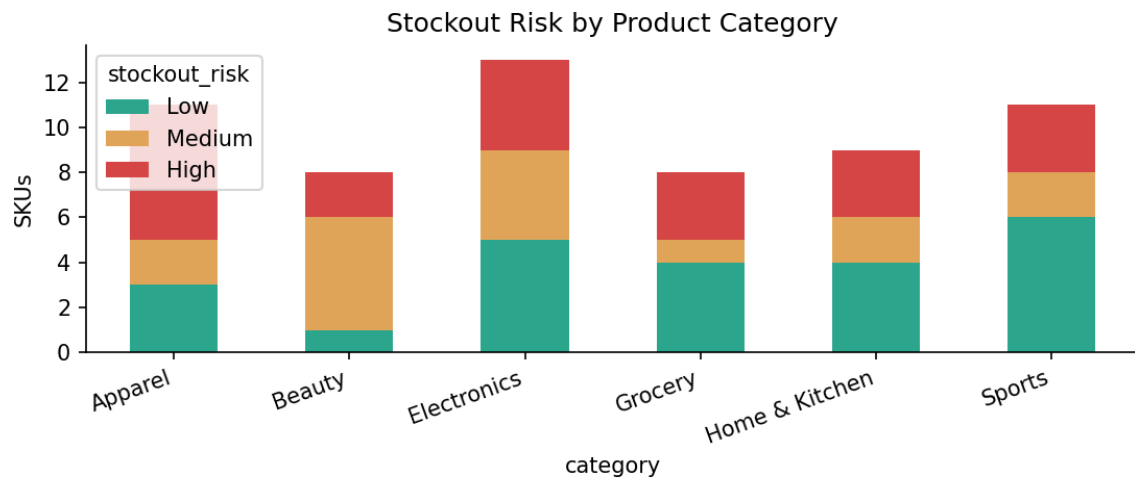

Figure 7 — Stockout risk tier by product category.
- Figure 7 — Inventory stockout risk by category